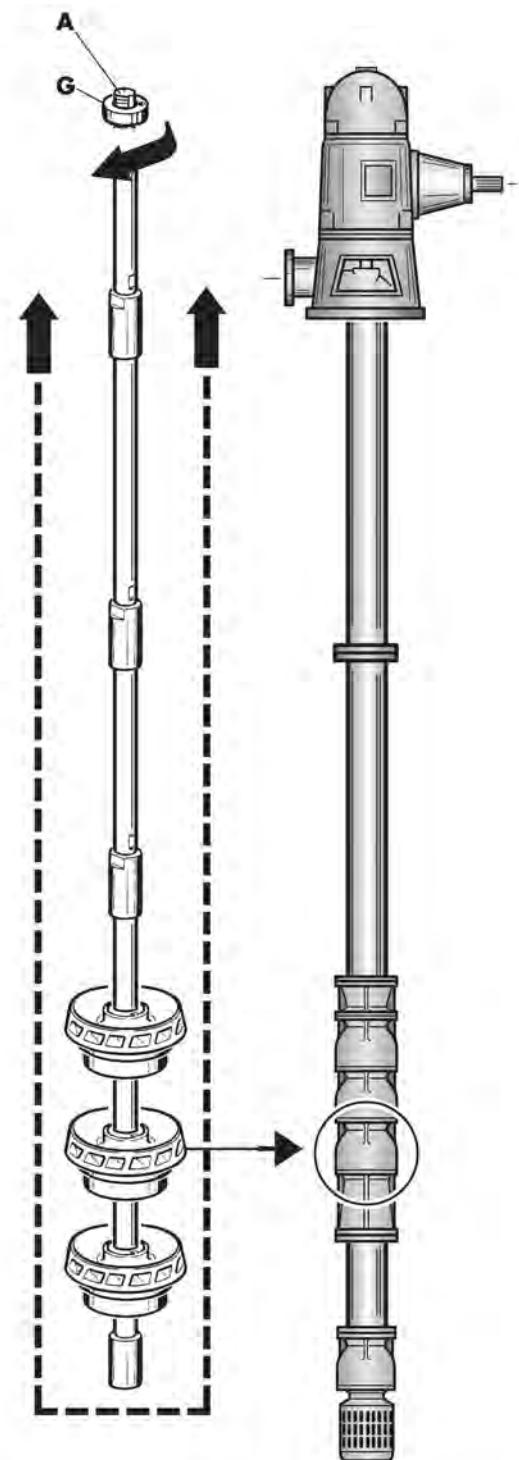

Fig. 29
- Slowly tighten the adjusting ring nut (G) until the rotating part is released (Fig.29)